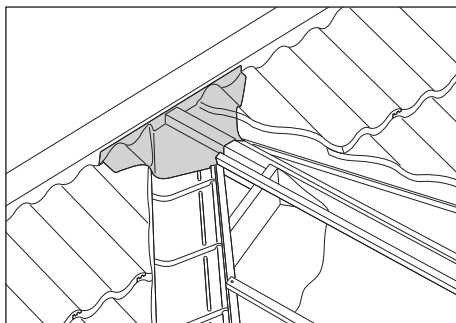

Fig. 33 – Saddle at ridge/roof/valley intersection (interlocking tiles)
- 2 Saddles should be capable of being readily dressed down when in position (Figs. 33 and 34, page 25).